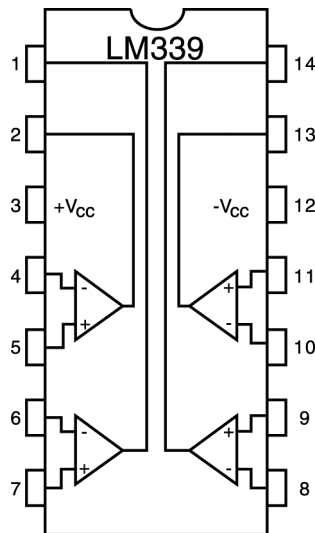
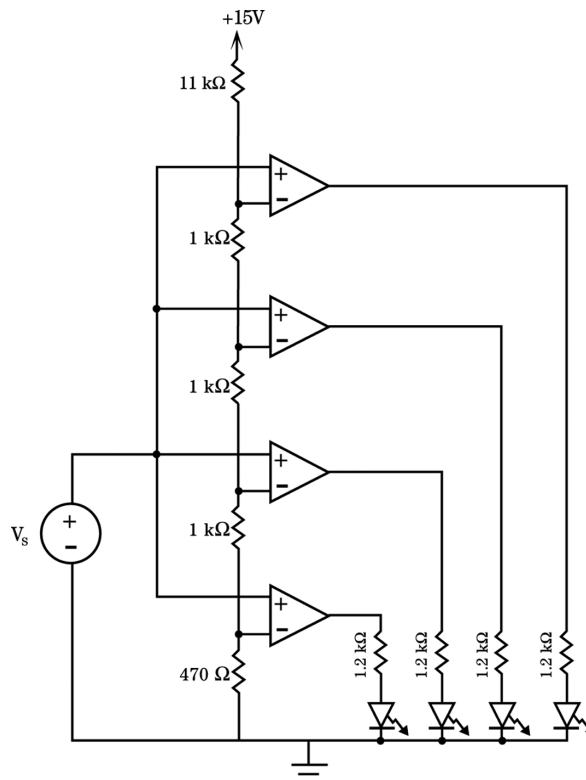

Figure 3
Figure 4
Your supervisor has decided to use seven LEDs in the display. An octal 0 is indicated when all of the LEDs are off. Each increment in the octal number will light an additional LED. Her technique for decoding the analog signal is to use an A/D (analog to digital) converter called a flash converter. Her design uses two LM339s, (quad comparators), with the pin-out shown in Fig. 3. The circuit she gave you for the display requires that the output of your D/A be positive. If your D/A outputs negative voltages, you will need to modify her design. She wants you to verify her design by constructing the first half of her circuit as shown in Fig. 4. Conduct a system test by connecting your design to her prototype to ensure the entire system is in compliance with the design specs.
- b) When “forward biased”, that is, when an LED is on, LEDs usually have a voltage drop of 1.7 V. Most are operated at about 10 mA. As shown in Fig. 4, your supervisor specified 1.2 k $\Omega$  “current limit” resistors in each LED branch of her circuit. Did she select the correct resistors?